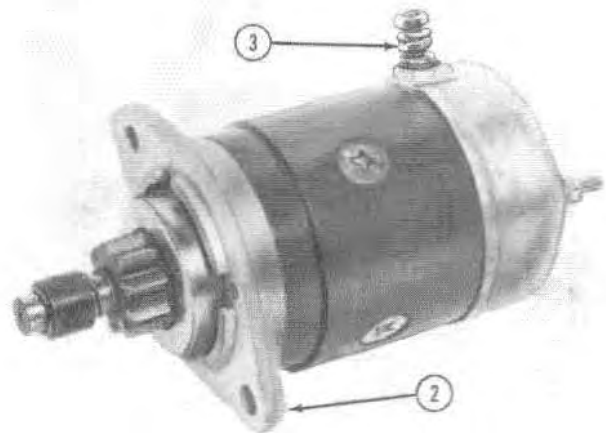

Fig. 8-Testing Starter Motor Drive
2. Connect negative cable to starter motor housing, Fig. 8.